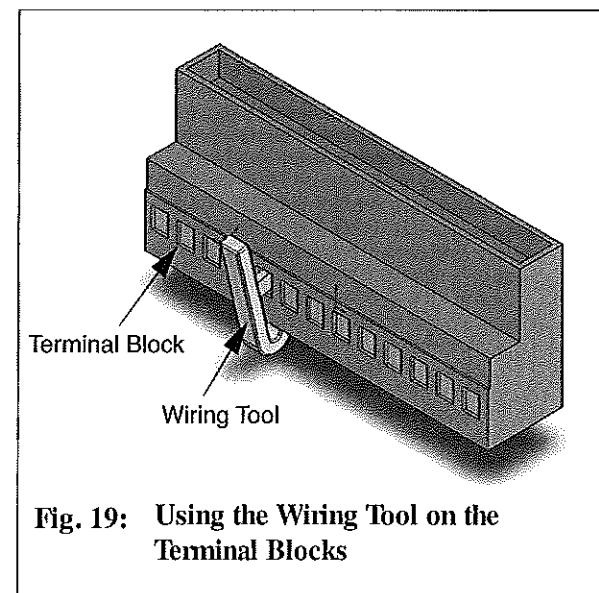

Fig. 19: Using the Wiring Tool on the Terminal Blocks
4. Hook the wiring tool into the desired slot of the terminal block as shown in Fig.19.